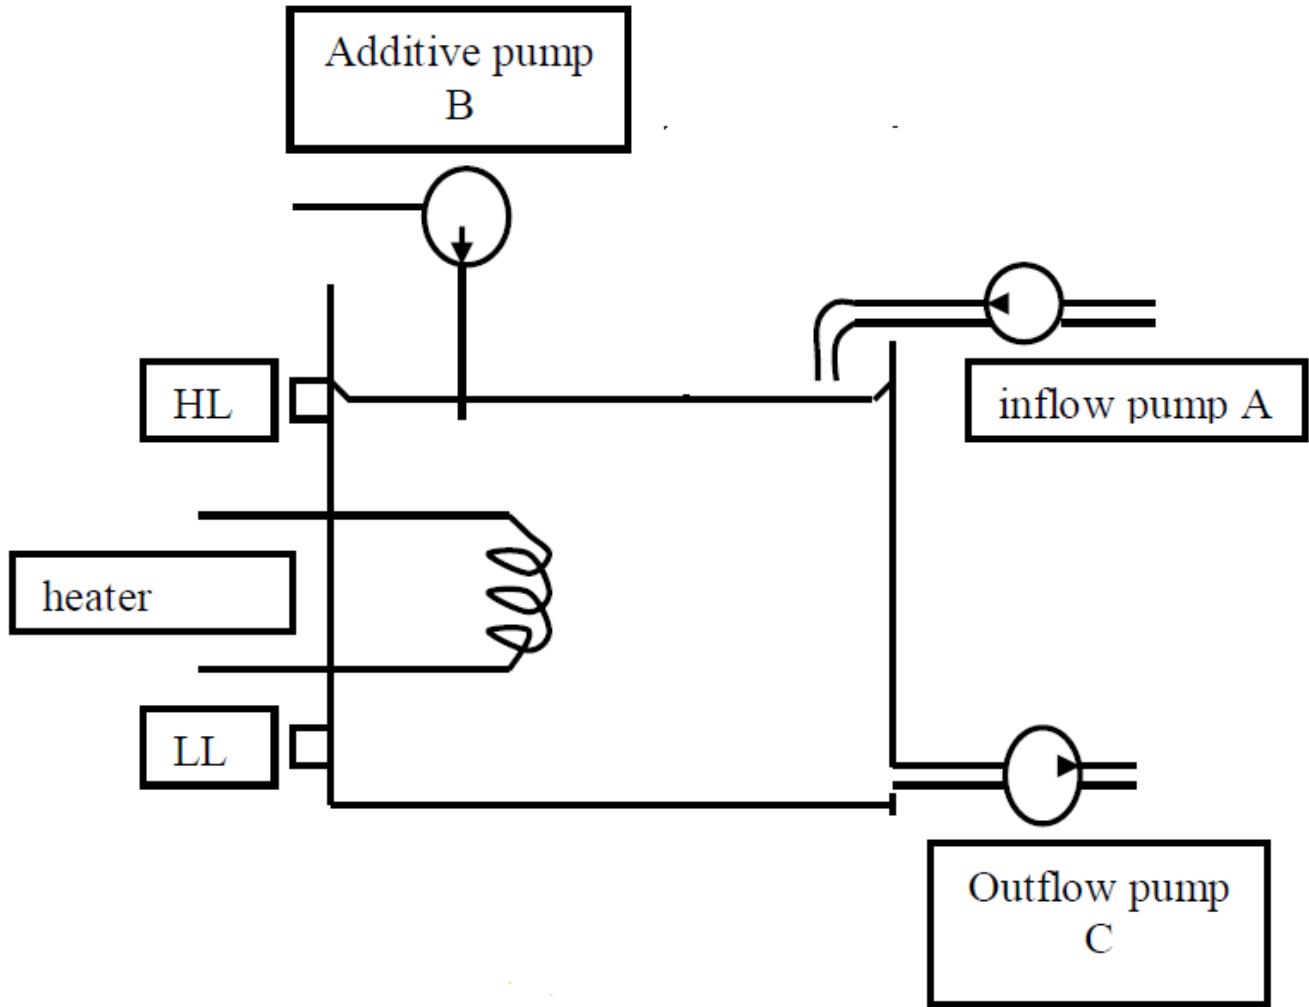

Fig 2A: Heater and mixer
- 1) Differentiate Distributed control system and programmable logic controllers (2)
- B) List the elements required for distributed control systems. (4)
- C) Describe the presentation and monitoring devices used in distributed control systems (4)
- 2) Write the instruction list for the process shown in Fig 2A. The problem statement is described below (4)